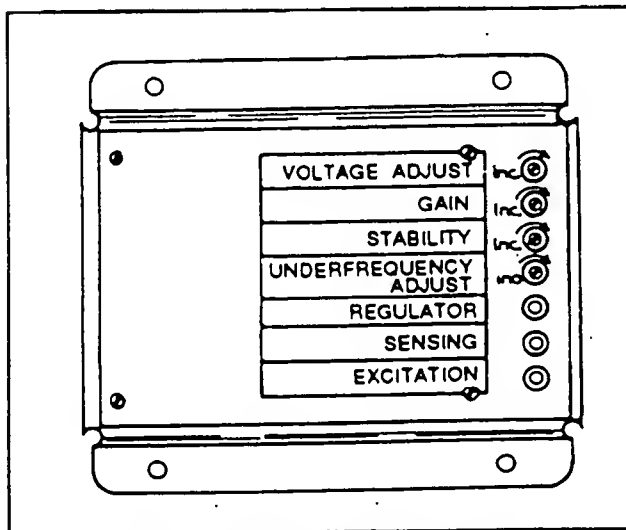

Figure 5. The AC Voltage Regulator
The Regulator is equipped with three (3) lamps (LED's or "light emitting diodes"). See Figure 5. These lamps are normally on during operation with no faults in the system. The green EXCITATION lamp and the red REGULATOR lamp are both turned on by stator excitation winding output. If, for any reason, stator excitation winding output were to be reduced, the two lamps would begin to dim. Finally, at some mid-point voltage and current, the two lamps will no longer glow visibly.